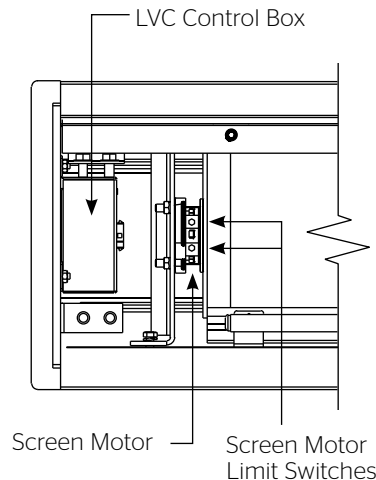

Figure 3
- Remove the square peg bracket from the motor end of the roller assembly (Figure 3).
- Complete electrical hook-up by snapping motor 1/3 wire connectors into case connectors (Figure 3).